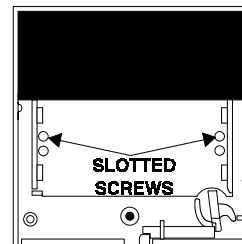

Figure 6. Slotted Screw Locations
- 7) Place the Wireless Fire Pull Station on the back box and secure it to the back box with the 2 black flathead machine screws provided (see Figure 6).